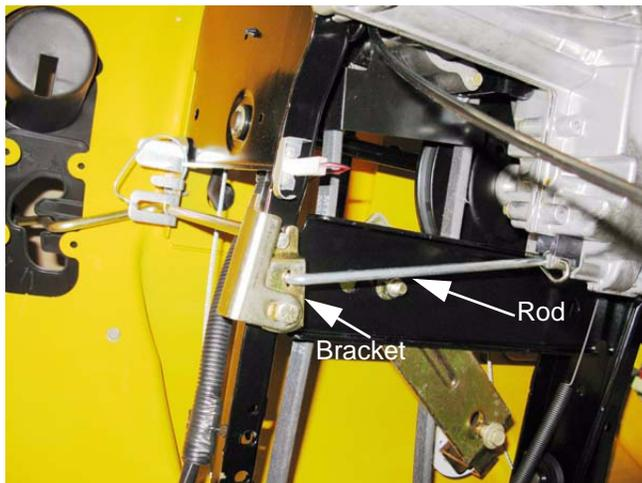

Figure 6.13
- The selector pivots on a frame-mounted bracket, transferring the motion to a push-pull rod connected to the transaxle. See Figure 6.13.